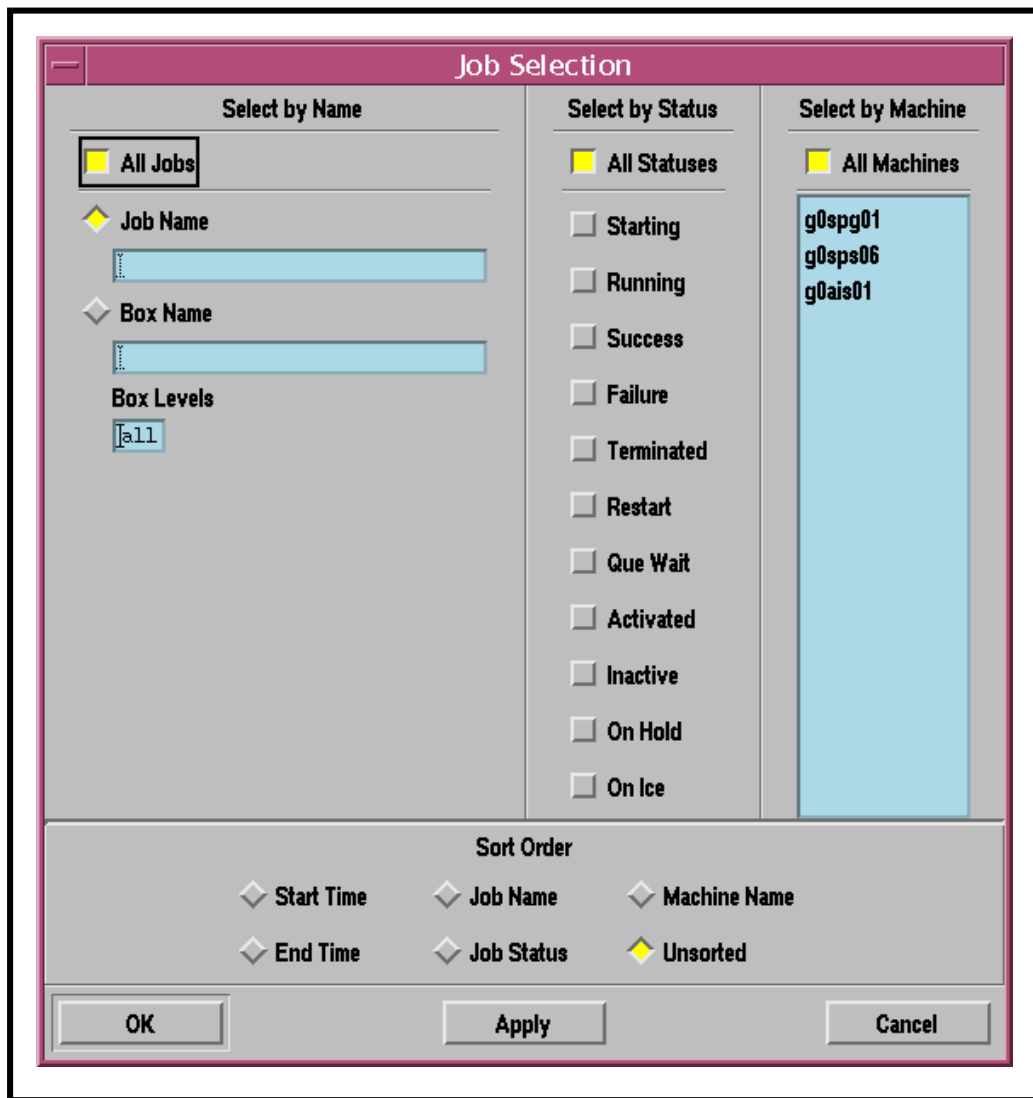

Figure 48. Job Selection GUI
- The **Job Selection** GUI (Figure 48) is displayed.